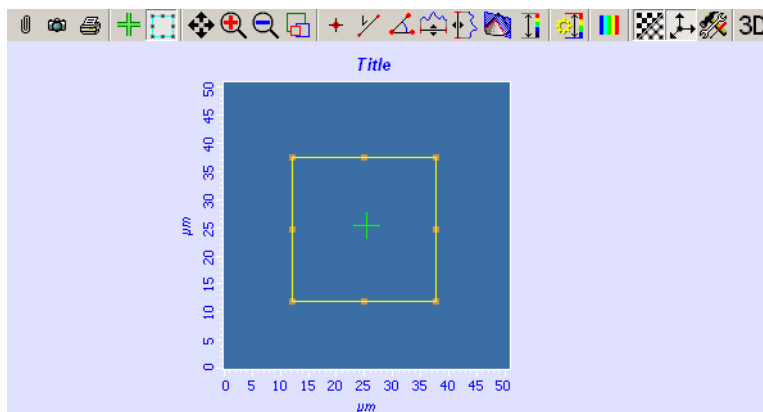

Fig. 12-32. Scan area in XY plane
- a. Enable the function of selecting the scan area by pressing the  button (Fig. 12-32) in the Toolbar.